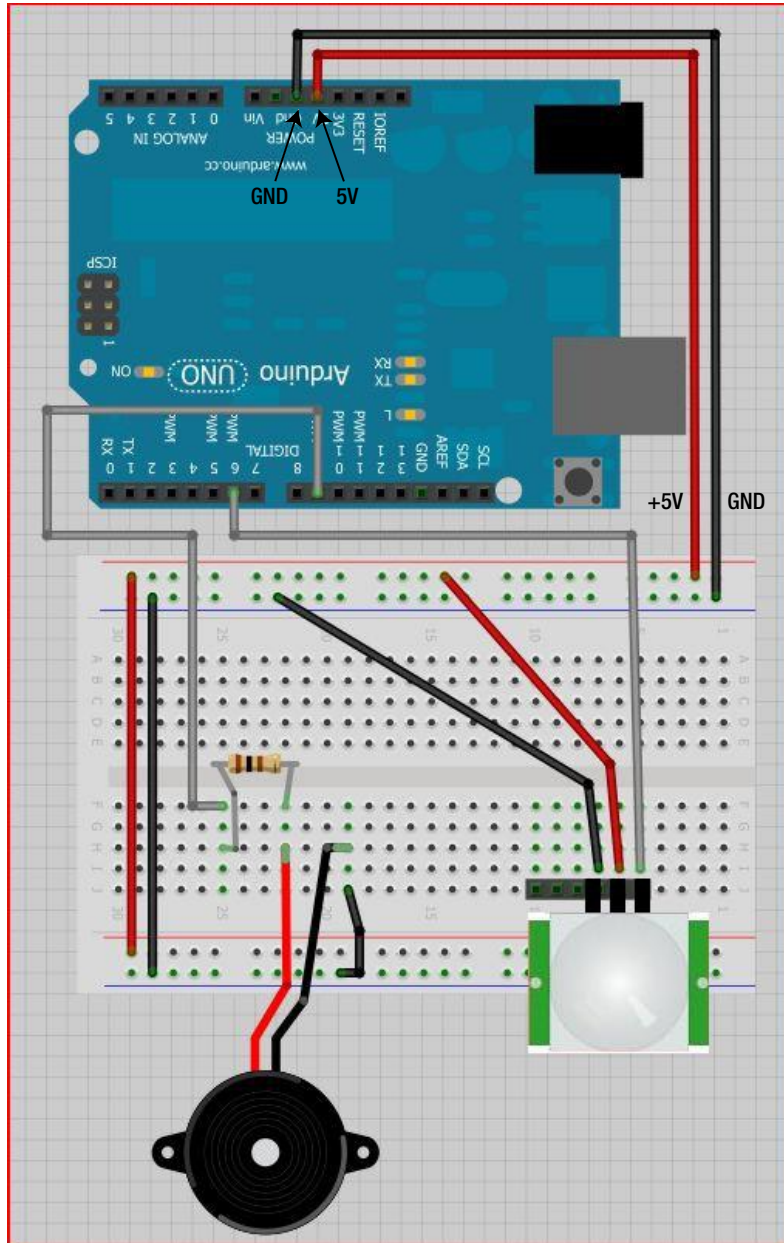

Figure 19-13. Connect power (+5V) and ground from the Arduino to the solderless breadboard
12. Now we need to connect both power and GND to the breadboard, which is done via the Arduino. The Arduino will get power from the 9V battery and then provide it to the breadboard using a wire (we used red) running from the +5V pin to the power column on the breadboard. Connect the wire to any free hole on the power column (power column row 13). Insert the end of another wire (we used black) into the GND header on the Arduino and the other end into the GND column (ground column row 12). Figure 19-13 illustrates this process.